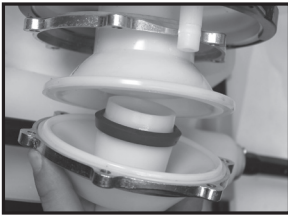

Figure 3
- 3) Pull the pump housing halves apart and inspect piston collar/diaphragm for wear. Replace as needed (Figure 3).
6) Re-assemble the two pump halves (fig.3).